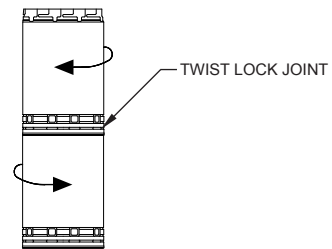

FIG. 3a
6. Install Temp Guard chimney sections starting at the TGCSP. Secure the sections by pushing together and twisting until stop-locked (See FIG. 3a). Additional chimney sections may be added to maximum height of 60 feet. 14", 16" and 18" are installed flange to flange, as illustrated on page 6. At each additional ceiling, a firestop (TGFS) is required. Insert the TGFS into the joist area prepared in step 5. Continue this process for each floor level until the area above the attic.